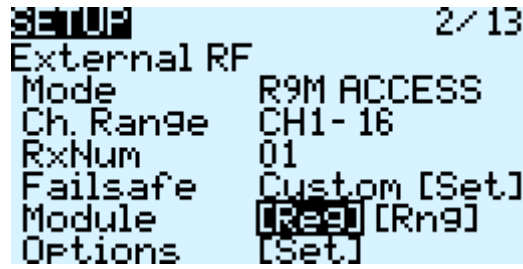

Figure 76: RCU External RF
6. Using the ENT knob, scroll down to EXTERNAL RF. See figure 76.